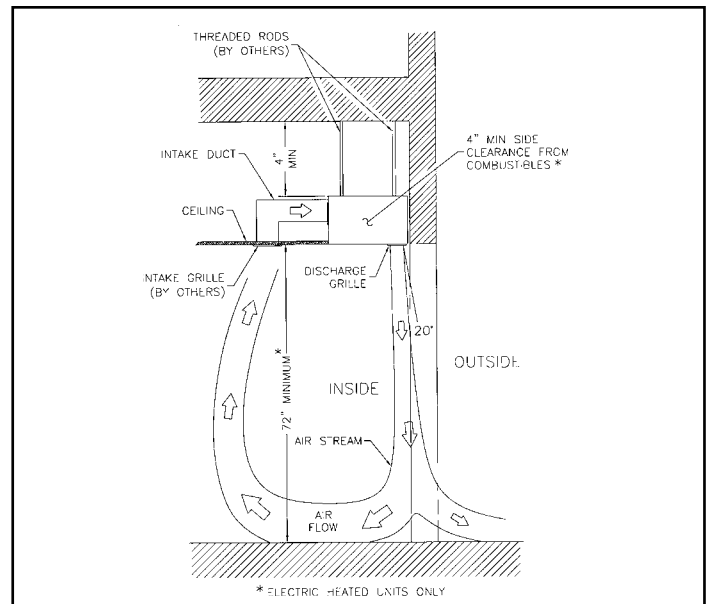

FIGURE 5 - In-Ceiling Suspension Mount Without Adapter
**C. ABOVE CEILING: Figure 5**
Follow instructions 1 & 2 under Item A. **See Figure 5.** The bottom of the unit can be exposed for easy servicing.